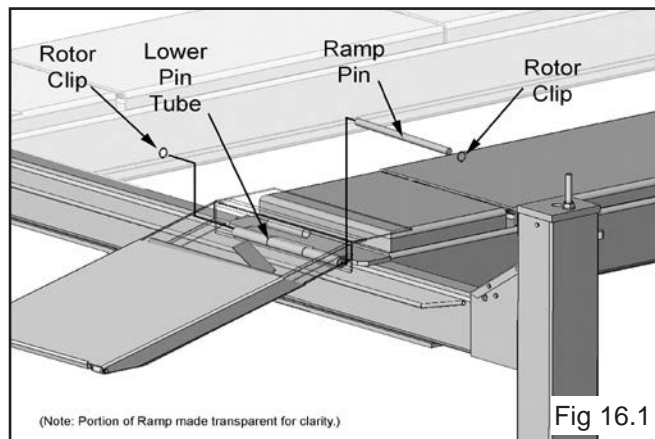

Fig 16.1
1. Install the Approach Ramps on the entry side of the lift. Use the Lower Pin Tube. (See Fig. 16.1)